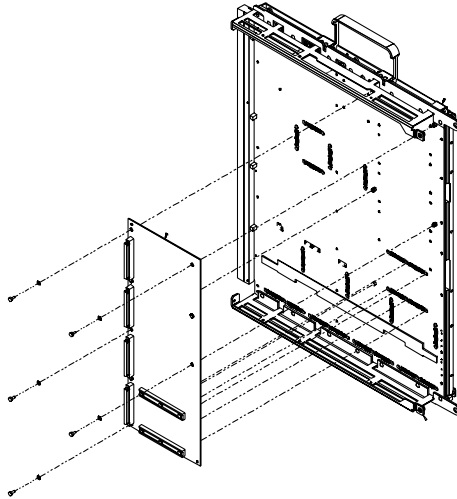

FIGURE 2 SBus I/O Module Removal
3. Remove the SBus I/O module (FIGURE 2).